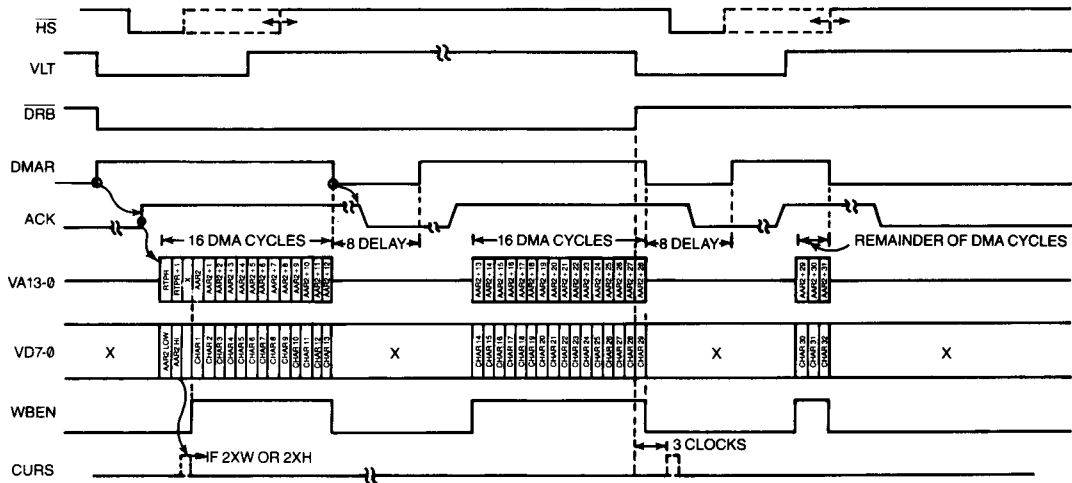

FIGURE 9: CRT 9007 DOUBLE ROW BUFFER TIMING (32 CHARACTERS PER DATA ROW)
the delay between each DMAR-ACK sequence, via the DMA CONTROL REGISTER (RA). If 8 DMA operations are performed for each ACK received, 10 such DMAR-ACK sequences must be performed to completely fill the write buffer. The programmed delay allows the user to evenly distribute the DMA operations so as not to hold up the processor for an excessive length of time. This feature also permits other DMA devices to be used and allows the processor to respond to real time events. In addition, the user has the ability to disable the CRT 9007 DMA mechanism. Figure 9 illustrates typical timing for the CRT 9007 used with the CRT 9212 Double Row Buffer.